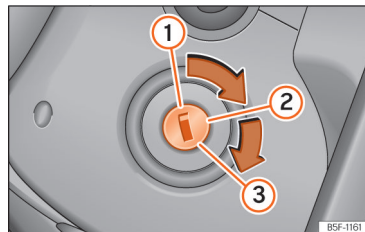

Fig. 80 Ignition lock
- Turn the key to position >>> **Fig. 80 ②**.
- Keep turning the key to position >>> **Fig. 80 ③** without pressing the accelerator.
- Once the engine starts, release the key. When it is released, the key returns to position **②**.
- *Vehicles with ignition locks:* Turn the key to position >>> **Fig. 80 ①**.
- *Vehicles with start buttons:* Briefly press the start button >>> **Fig. 80**.